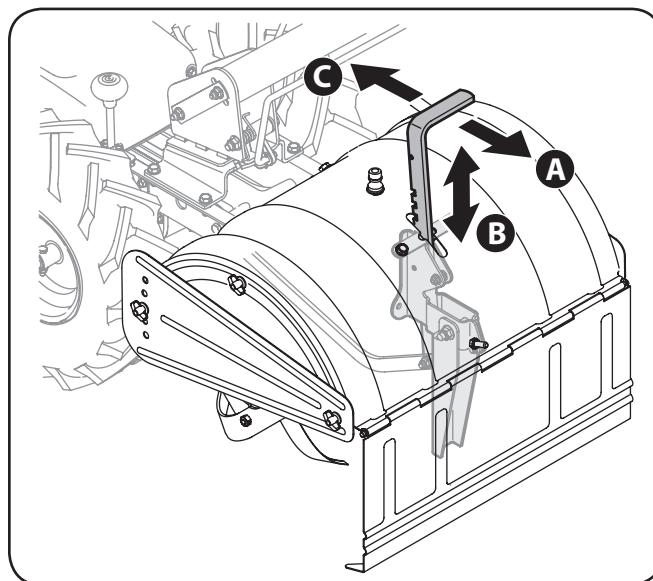

Figure 5-2
1. Pull back on the depth adjustment lever (a), move the lever up or down into the desired tilling depth (b) and move back forward to lock into place (c). See Figure 5-2.
2. When using the tiller for the first time, use the second adjustment slot from the top. See Figure 5-2.